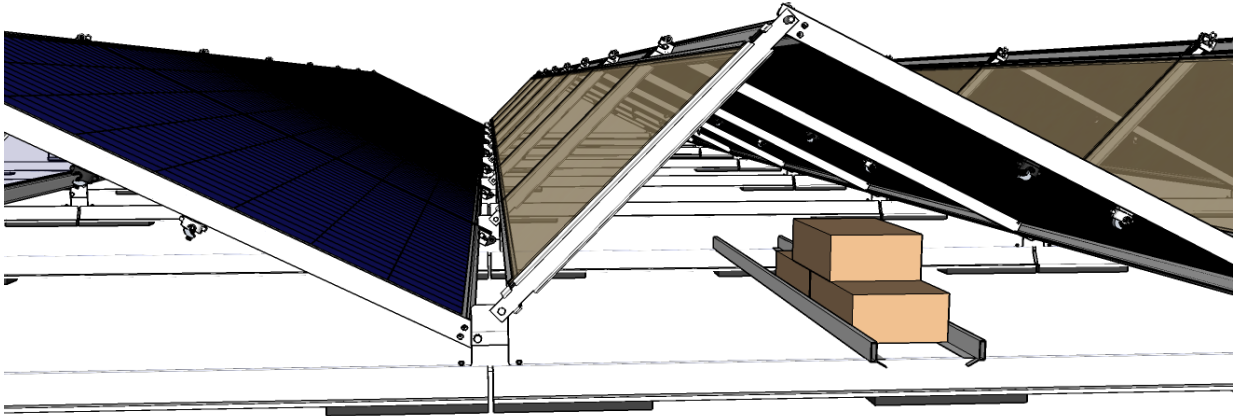

Figure 16
- Construct a ballast tray by placing two aluminum ballast rails across the top of the rails as indicated in Figure 16. The bent tabs on the ballast rails will locate them on the array rails. Place ballast blocks oriented east-west. In the event, on very small arrays, that you need more than 220 lbs of ballast under a wavelet, construct a second ballast tray. **Be sure extra rail pads have been installed under ballast locations as indicated in ‘Additional Pads’ on page 7.**
Caution: Always orient the longest dimension of ballast blocks east-west as shown in Figure 16. “Widening” the tray to allow north-south orientation of ballast blocks could result in blocks cracking, resulting in ballast failure.